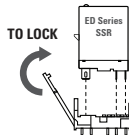

fig. 2 PCBSED Socket Mounting
- ◆ Insert ED series SSR into PCBSED socket observing terminals' orientation (fig. 2).
- ◆ To retrieve the ED series SSR from socket, first unlock latching mechanism, as shown in fig.2, then gently pull the SSR.